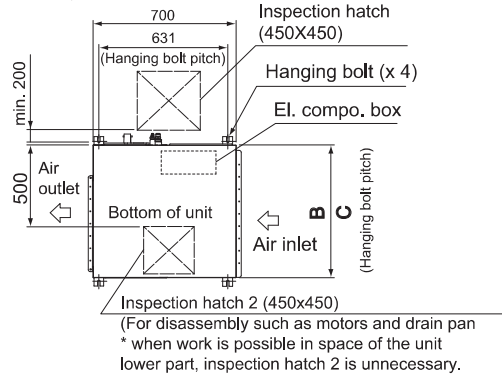

Fig.2-2
1. Inspection hatch 1 and 2 (450 × 450) for the el. compo. box and a minimum space of 300 mm at bottom of the product. (Refer Fig. 2-2)